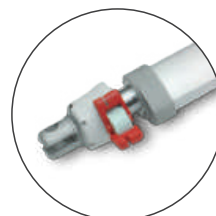

Fig. 1
- Certified: CE Marking, EN 60601-1-2, IEC 61000-4-2, IEC 61000-4-3, IEC 61000-4-8 RoHS, Directive 2011/65/EU and commission delegated Directive (EU)2015/863, (EU)2017/2102
- Optional QR2 quick release: To retract actuator quickly by pinching the QR2 grip while emergency (*Fig. 1*)